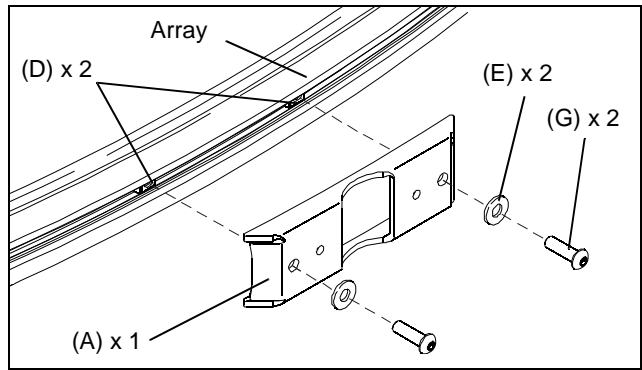

**Figure 2**
3. Loosen and remove end lock retaining screw and set aside for reuse. (See Figure 2)
4. Slide end lock out of array channel and set aside for reuse. (See Figure 2)